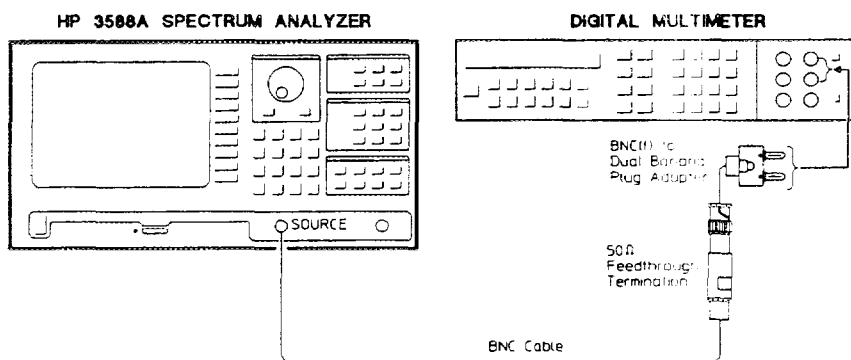

Figure 3-6. Source Responses Setup for Low Frequencies
3. Connect the test equipment as shown in figure 3-6.